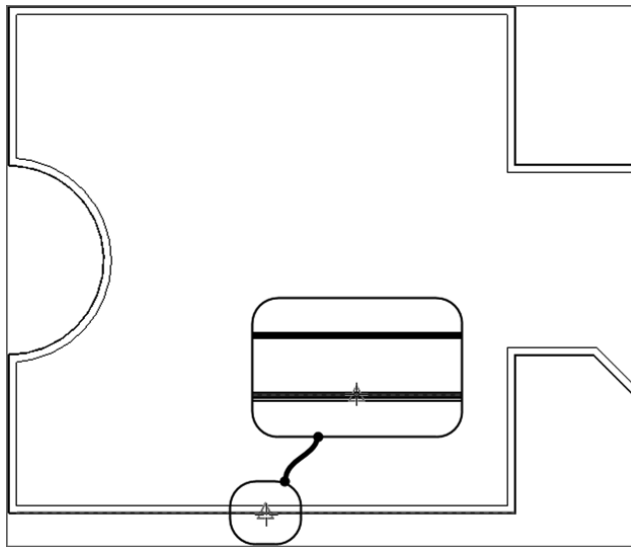

FIGURE 2.18: Adding the new walls requires picking the midpoint of this wall. Make sure Offset is set to 15'-0" (4500 mm) on the Options bar.
6. Pick the midpoint of the south wall, as shown in Figure 2.18.